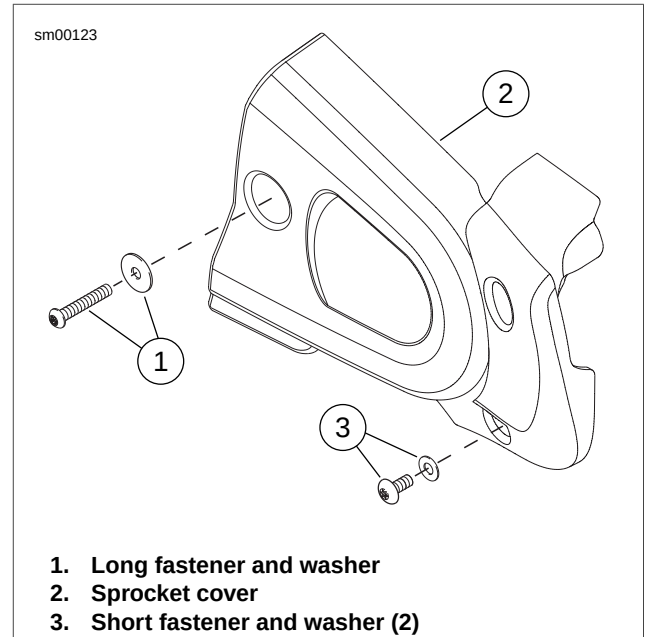

Figure 2-162. Sprocket Cover
2. See Figure 2-162. Remove sprocket cover fasteners and washers (1, 3).
1. See Figure 2-162. Install sprocket cover (2) using sprocket cover fasteners (1, 3) and tighten all fasteners and washers (1) to 12-36 **in-lbs** (1-4 Nm).